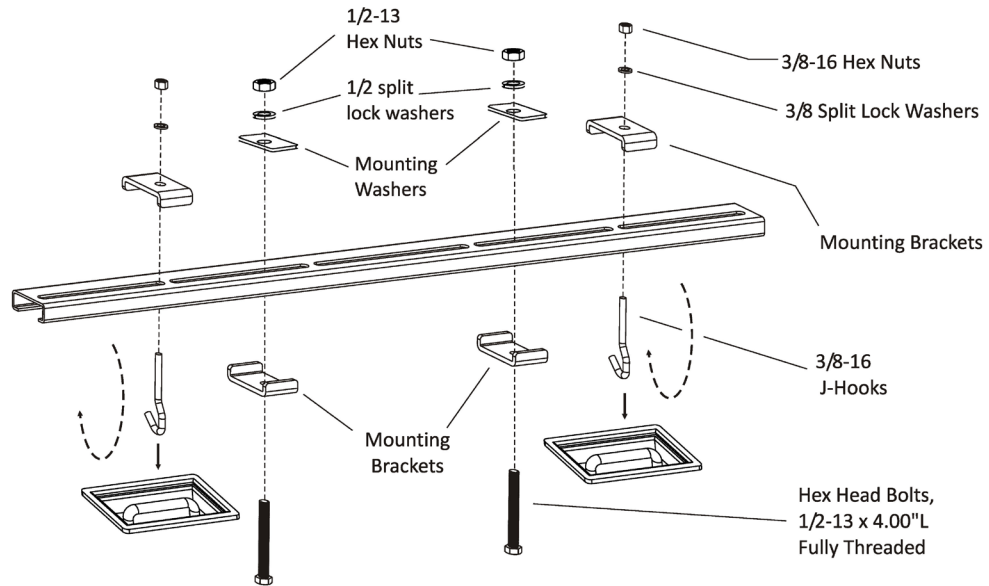

Figure 4-10
4. If Seat Attachment Points ARE Available: *See Figure 4-10 for mounting diagram.*